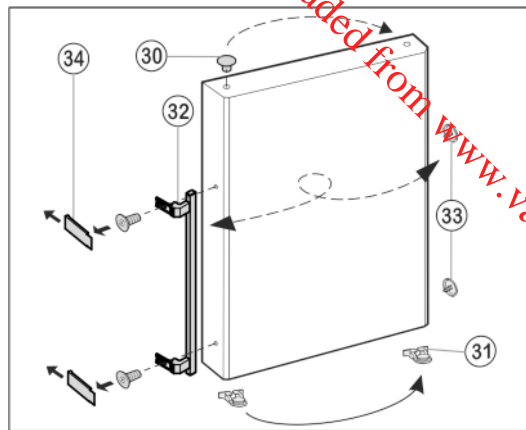

Fig. 11
- Lift the stopper *Fig. 11 (30)* out of the door bearing bush and transfer it.
- Detach door handle *Fig. 11 (32)*, stopper *Fig. 11 (33)* and pressure plates *Fig. 11 (34)* and transfer to the opposite side.